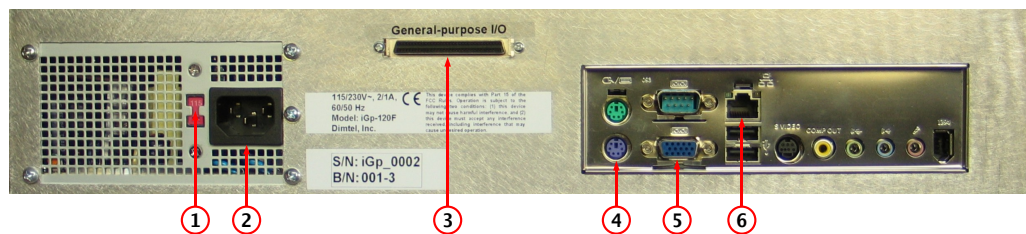

Figure 3: Rear panel features
WARNING: Before connecting power to the unit make sure the voltage selection switch (Fig. 3, item 1) is in the correct position (115 or 230 V).
1. Configure voltage selection switch (Fig. 3, item 1). Mains supply requirements for the iGp-312F are listed in Table 8;
7. Connect a PS/2 keyboard (Fig. 3, item 4);
8. Connect a video monitor (Fig. 3, item 5);
Setup program is included in the **IOC** for configuring the important features of the iGp-312F. The program can be executed locally or remotely. For local execution one must first connect a keyboard (Fig. 3, item 4) and a video monitor (Fig. 3, item 5) to the system. For remote setup, use **ssh** after system bootup to establish connection. In both setup methods the user must login as **root** (initial password is supplied with the system). If the newly received iGp-312F must be configured remotely (when, for example, a keyboard or a monitor is not available), such configuration can be performed using a dedicated network. Set up a network consisting of the iGp-312F, a network hub or a switch, and a remote computer. The iGp-312F is delivered with the following network configuration:
- Make sure no cable is connected to the general-purpose digital **I/O** port (Fig. 3, item 3);